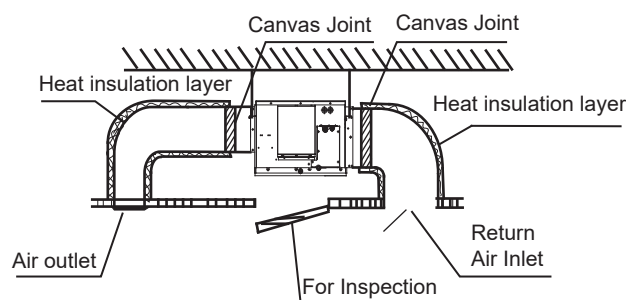

Figure 22.
6. Connect the air duct as shown in Figure 22.